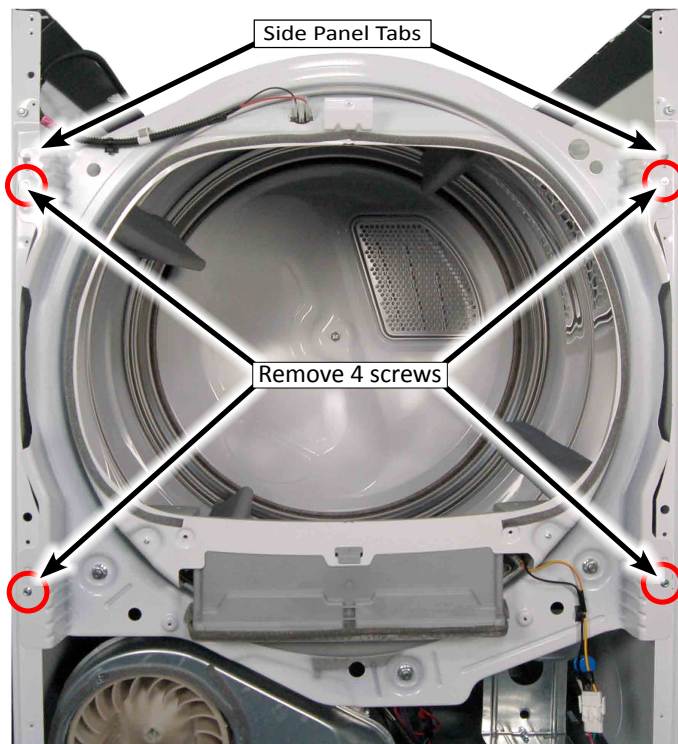

Figure 5
- Remove the four (4) 1/4" hex-head screws securing the front bulkhead to the side panels as illustrated in Figure 5. Lift the bulkhead up off the side-panel tabs and remove.